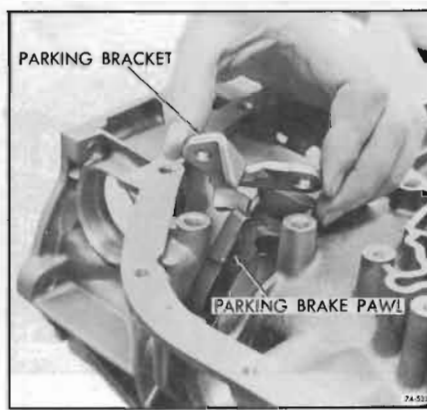

Figure 74-531
f. Remove attaching bolts and parking bracket. See Figure 74-531.